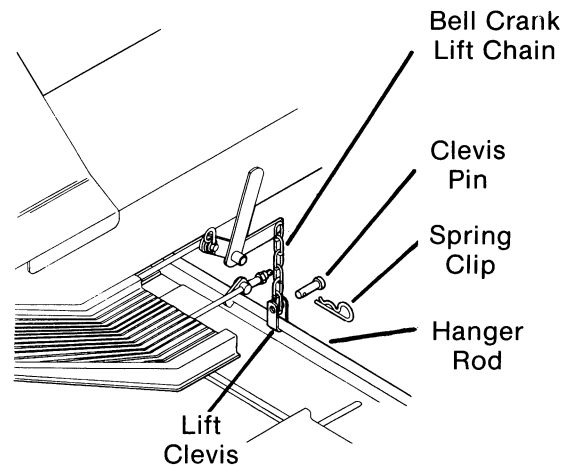

FIG. 10
- J. Position a lift clevis around hanger rod and insert a clevis pin through lift clevis and the last link of bell crank lift chain. (Fig. 10)
- C. Remove spring clip from clevis pin attaching lift clevis to hanger rod. Remove clevis pin and lift clevis. (Fig. 10) Repeat again on side of mower deck.